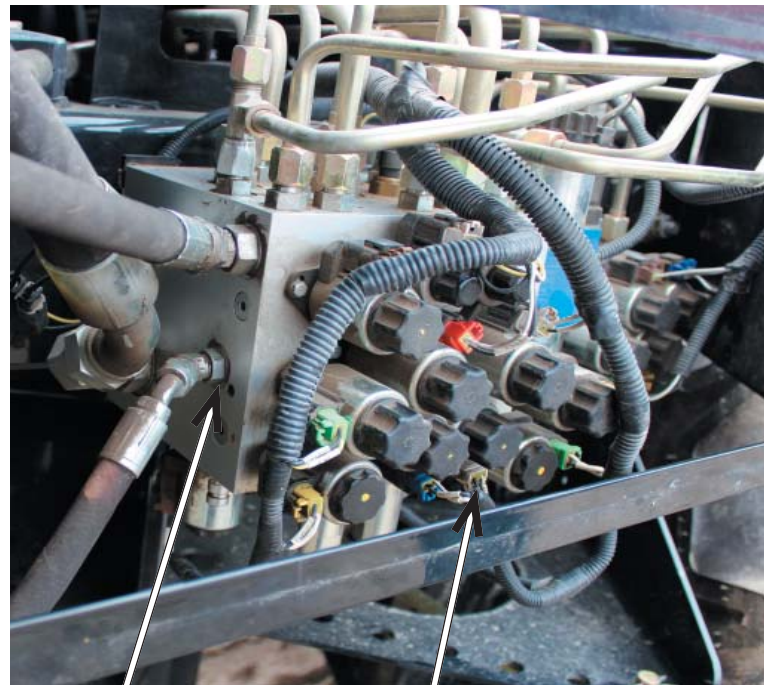

**Figure 2.6a - Hydraulic lines hook up**
1. The supply line connects from the solenoid valve provided to the main valve block as shown in *figure 2.6a*. Refer to the Hydraulic Diagram on *page 12* for correct fitting size.